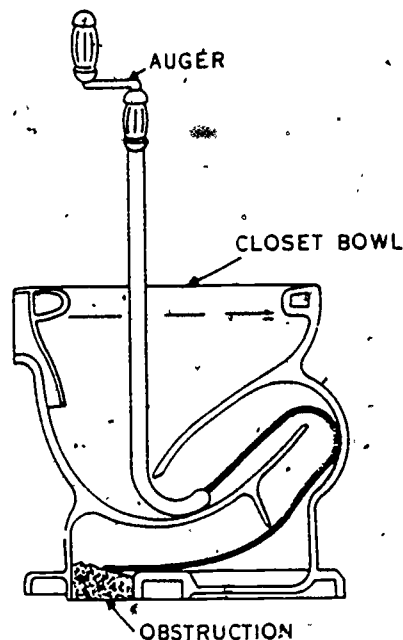

Figure 3-51. Using a closet auger to clear a water closet trap
**Plumber augers.** Several special augers have been designed to aid the plumber in removing stoppages from fixtures and pipes. These augers are often referred to as snakes. The closet auger is used if the obstruction cannot be forced through the trap by plunging. Insert the end of the flexible cable in the trap, forcing it through the trap while rotating the handle, see figure 3-51. Rotate the handle continuously until the auger reaches the obstruction and then turn the handle slowly until the obstruction is caught on the coiled hook of the auger. Continue rotating the handle in the same direction (clockwise) and slowly withdraw the auger from the bowl, removing the obstructing object if possible rather than forcing it through to the soil piping.